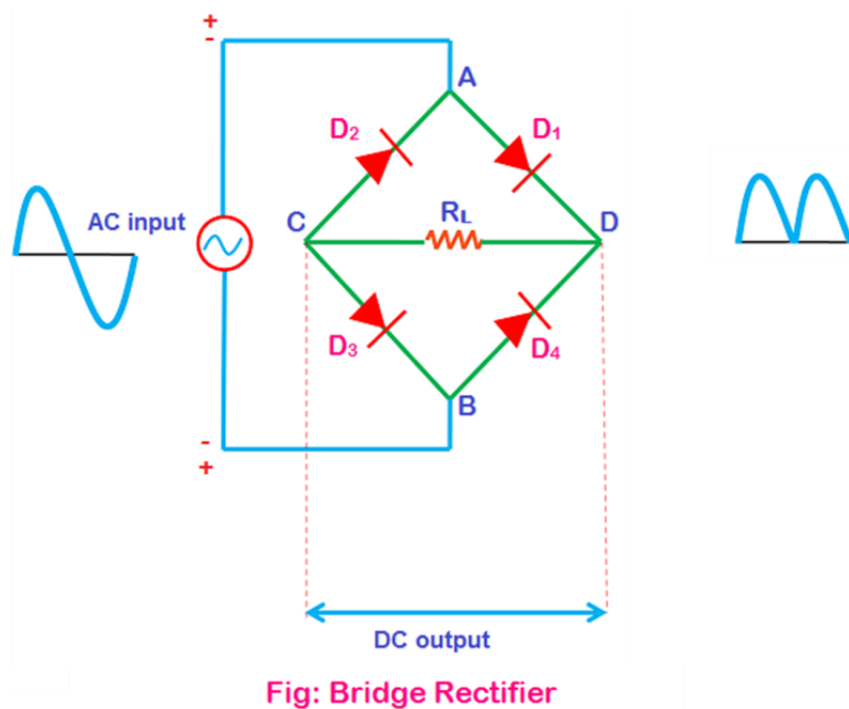

Figure 5
Bridge rectifier: is a type of full wave rectifier which uses four or more diodes in a bridge circuit configuration to efficiently convert the Alternating Current (AC) into Direct Current (DC) Figure 5.